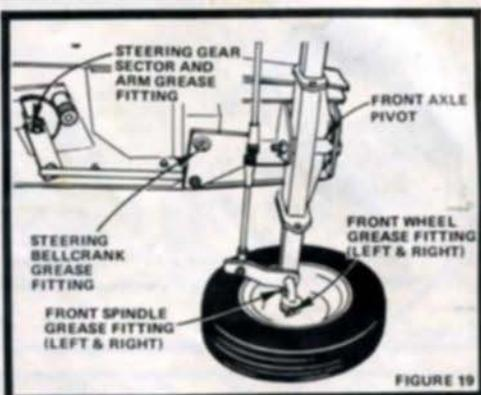

FIGURE 19
There are six Grease Fittings on your Tractor (Fig. 19). Using a Grease Gun, give each Grease Fitting two shots of Extreme Pressure Lubricating Grease Amdex No. 1 (Available at your local Sears Service Center).
- Front Axle Pivot (Fig. 19)